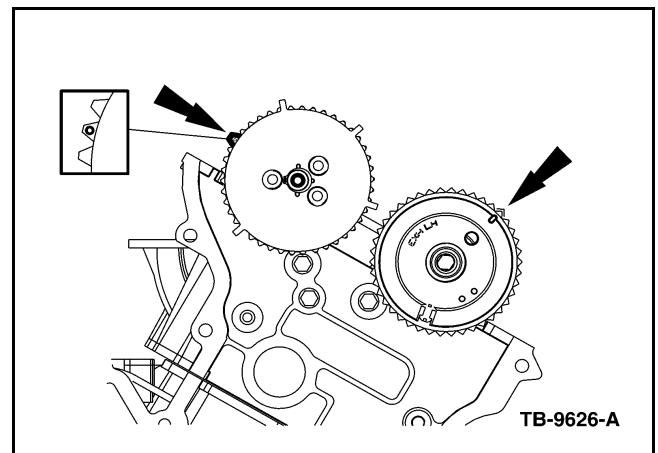

Figure 1 - Article 09-17-8
- a. Rotate the engine clockwise until cylinder number 6 exhaust cam lobes are pointing up and valves are fully closed. Exhaust camshaft needs to be left in this position for all bearing caps in Step 4b. (Figure 1)